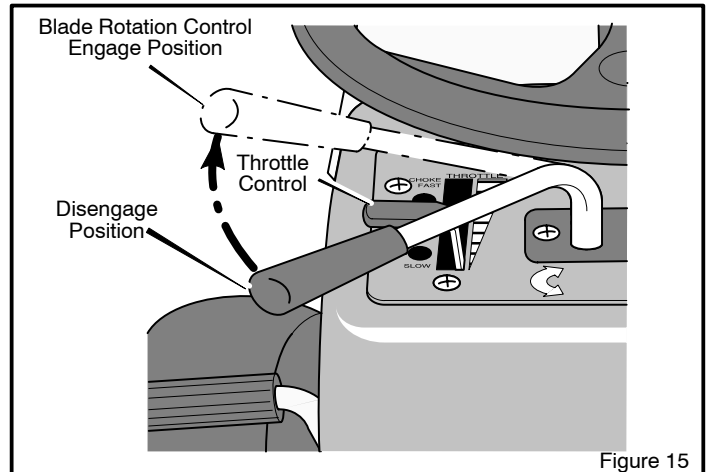
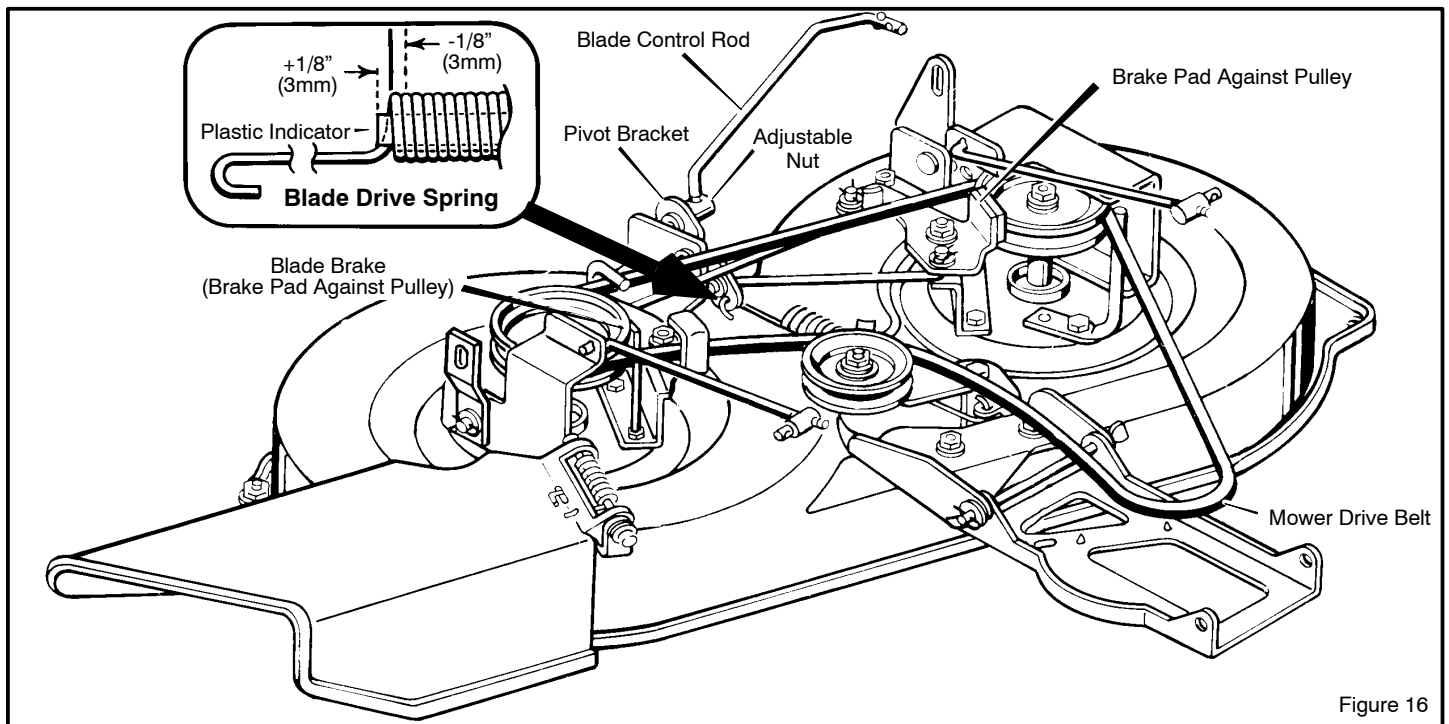

Figure 15
Figure 16
4. Move the **blade rotation control** to the **ENGAGE** position (Figure 15). Check the **plastic indicator** inside the **blade drive spring** (Figure 16). The end of the **plastic indicator** must be aligned (+ or -1/8 inch / 3 mm) with the last coil of the **blade drive spring**.